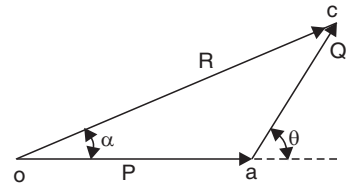

Fig. 2.15
**Graphical method.** Refer Fig. 2.15. Draw vectors  $oa$  and  $ac$  to represent the forces  $P$  and  $Q$  to some convenient scale in magnitude and direction. Join  $oc$  which will represent the resultant force  $R$  in magnitude and direction to the same scale.
**Analytical method.** From the geometry of triangle  $oac$  (Fig. 2.15).